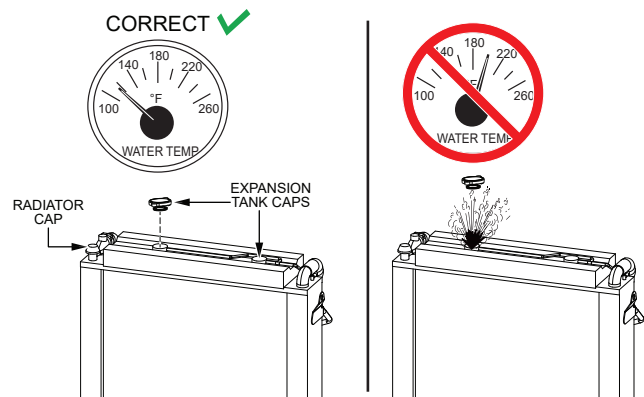

Figure 87. Radiator And Expansion Tank Caps
1. Remove the **radiator pressure cap** (Figure 87) and both **expansion tank caps** only if the coolant temperature is below 120°F (50°C).